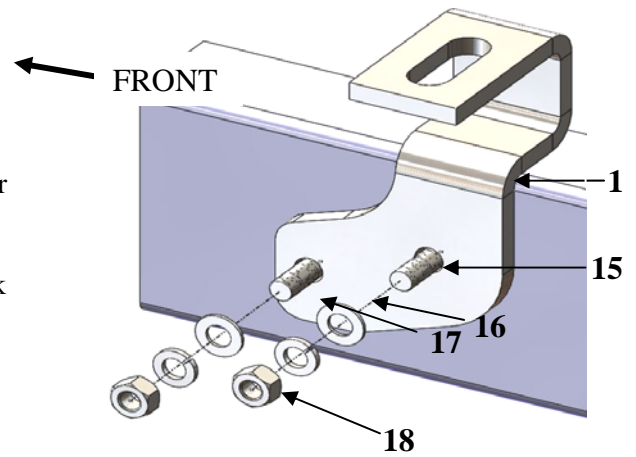

Figure: 3
2. Position the driver side front bracket #1 against the truck frame so previously installed u-bolt extends out through the two holes in bracket. Bolt bracket loosely in place as shown on Figure 3. Repeat installation procedure on passenger side of truck using the passenger side front bracket #2.
3. Position the driver side rear bracket #3 against outer surface of truck frame, just forward of the round tube cross member welded into the frame. There will be a hole near the center of the frame where the positioning pin in bracket will be inserted. Place one of the rear mount straps #5, against the inner surface of the truck frame and bolt in place with 1/2" bolts #12. These bolts will go above and below the truck frame and connect bracket #3 and strap #5 together. See Figure 3. Repeat installation procedure on driver side of vehicle using the driver side rear bracket #4 and remaining rear mount strap #5.